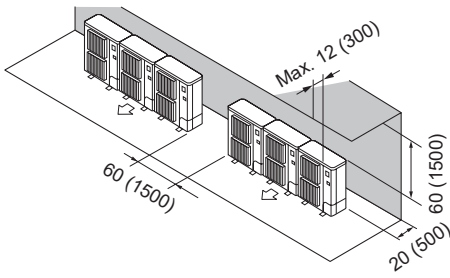

Fig. 2-13
- ② Obstacles at rear and above (Fig. 2-13)